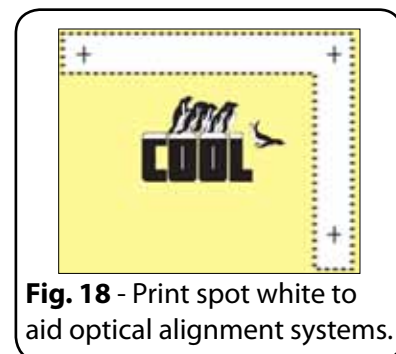

Fig. 18 - Print spot white to aid optical alignment systems.
- **Spot White Background for Registration Marks** – For off-white and clear transparent media, print a spot white background for registration marks (Fig. 18), thereby enabling cutters with optical eye systems to automatically align to the marks. This feature requires a printer that is capable of printing spot white.